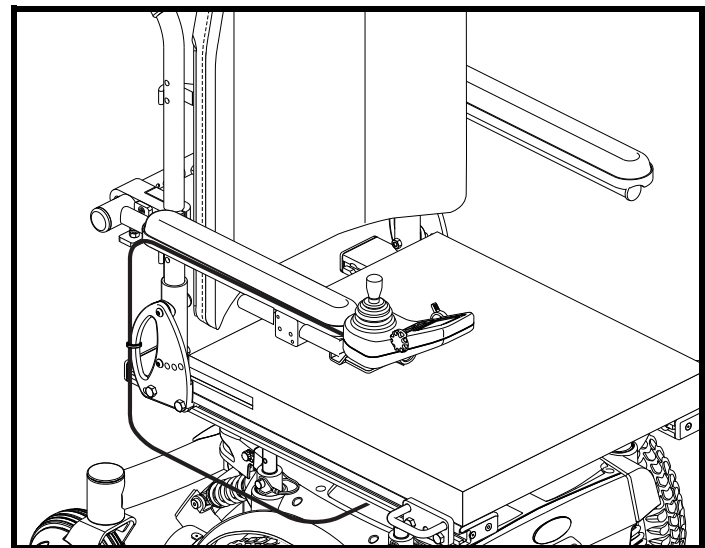

Figure 12. Controller Routed on a Synergy Seat
4. Install the controller and route the harness to the back of the power base. See figures 12 and 13.